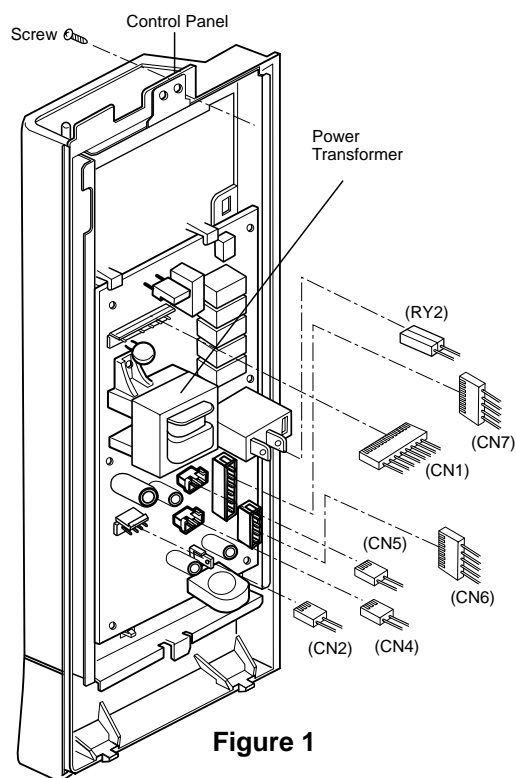

Figure 1
A. REMOVING POWER AND CONTROL CIRCUIT BOARD (Figures 1, 2 and 3)
- (1) Remove a screw securing the control panel assembly to the oven cavity.
- (2) Remove the control panel with pushing it upward.
- (3) Remove the connector (CN1) and wire leads (Relay2) from the circuit board.